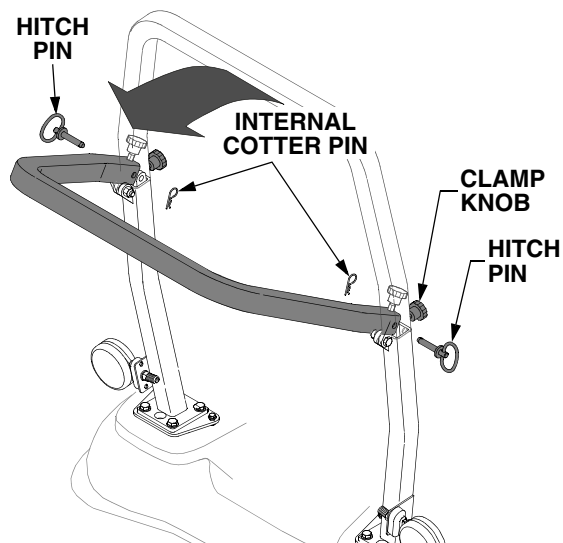

Figure 14
- Loosen the two clamp knobs on the front of the ROPS to relieve their pressure on the ROPS. See Figure 14.
- Remove the two internal cotter pins, and, while supporting the ROPS, withdraw the hitch pins. See Figure 14. Carefully lower the ROPS.